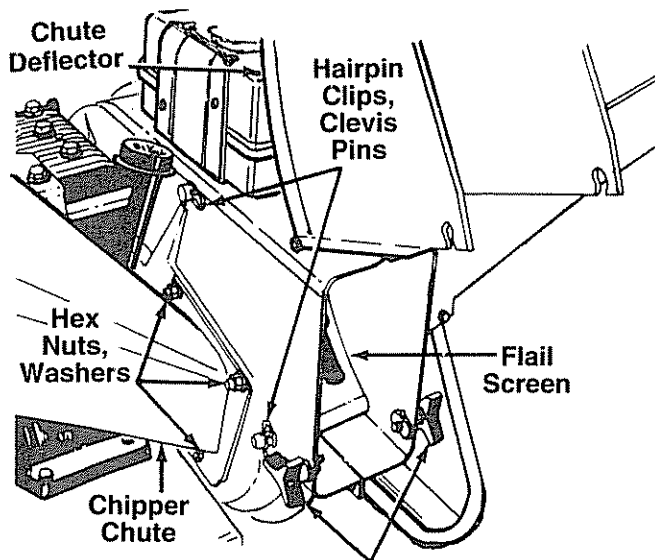

FIGURE 19. Hand Knobs
- Remove two hairpin clips from the clevis pins which extend through the housing. Remove the clevis pins. Lift the flail screen from inside the housing. See figure 19.
NOTE: Be certain to reassemble the flail screen with the curved side down as shown in figure 19.
- Remove the chipper chute by removing three hex nuts and washers. A 1/2" wrench is required. See figure 19.
Make certain blades are reassembled with the sharp edge facing the direction shown in figure 19 (sharp edge is assembled toward the slotted opening in the impeller assembly).